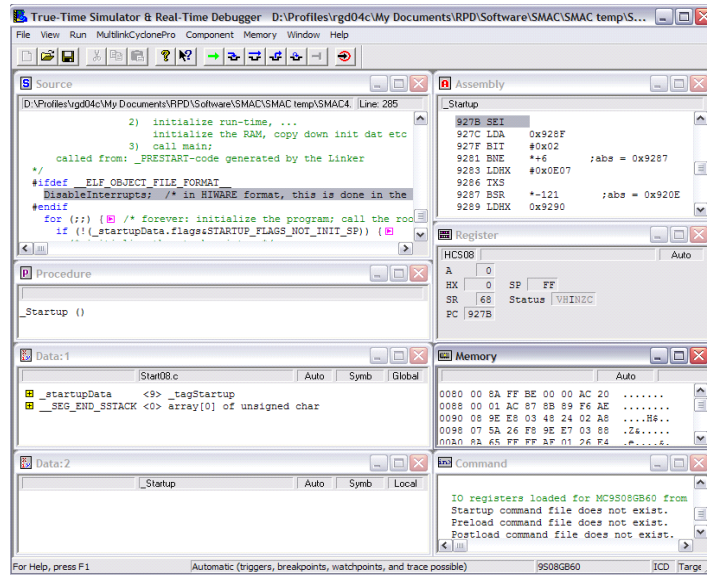

Figure 54. Debugger Application Window
- After the code is downloaded to the target, the system is running in Debugger Mode and the Debugger application window appears as shown in Figure 54.